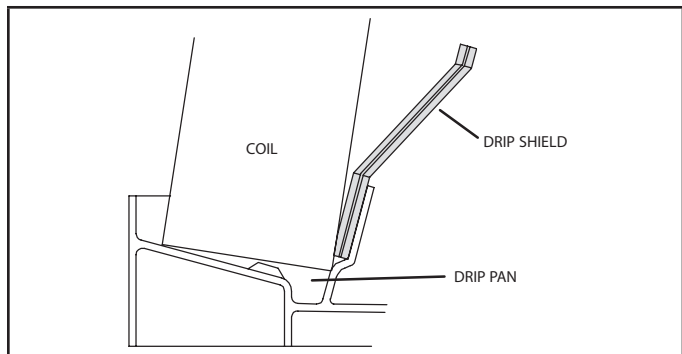

FIGURE 8. Downflow Drip Shields
- 5 - From the underside of the coil, install the downflow drip shield firmly in place as illustrated in figure 8.